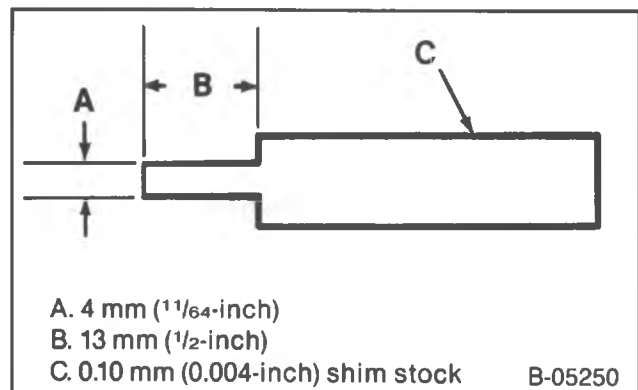
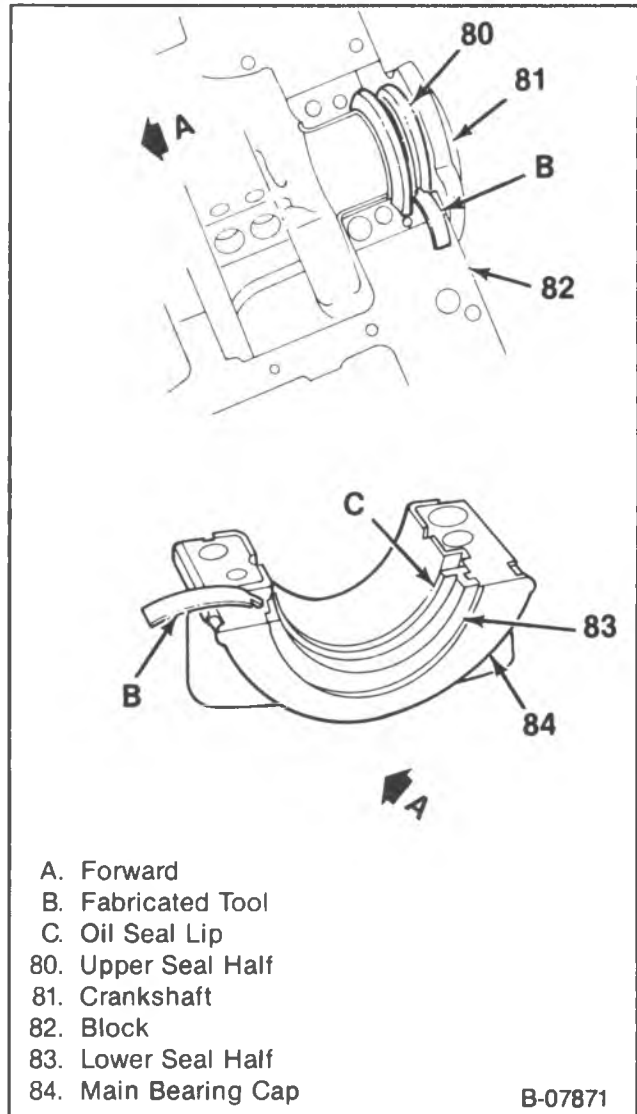

Figure 23 — Oil Seal Installation Tool
Figure 24 — Installing The Rear Crankshaft Oil Seal
Both halves of the rear main bearing oil seal can be replaced without removal of the crankshaft. Always replace the upper and lower seal as a unit. Install the seal with the lip facing the front of the engine. Extreme care should be exercised when installing this seal to protect the sealing bead located in the channel on the outside diameter of the seal. An installation tool (figure 23) should be used to protect the seal bead when positioning the seal. Some seal kits include the tool as part of the service kit.
Install or Connect (Figures 23, 24, and 25)
- An oil seal installation tool (figure 23) should be fabricated (if not provided in the seal kit) to prevent seal damage during installation. Extreme care should be taken when installing this seal to protect the sealing bead located in the channel on the outside diameter of the seal.
- Position the tip of the tool (figure 23) between the crankshaft and the seal seat in the block (figure 24).
- Insert the seal half into the rear main bearing cap. Use the tool to protect the seal half from the sharp edge of the seal. Feed the seal half into the rear main bearing cap, using light finger pressure. Make sure the oil seal lip faces the front of the engine (figure 24).